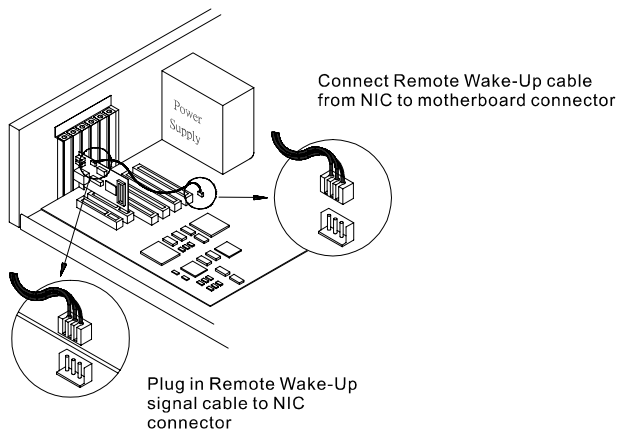

Fig. 2-3 Connecting the NIC to the 3-pin connector
1. Attach one end of the *Remote Wake-Up signal cable* into the connector on the NIC, as shown in Fig. 2-3.
2. Attach the other end of the cable to the connector on the PC motherboard, as shown in Fig. 2-3.